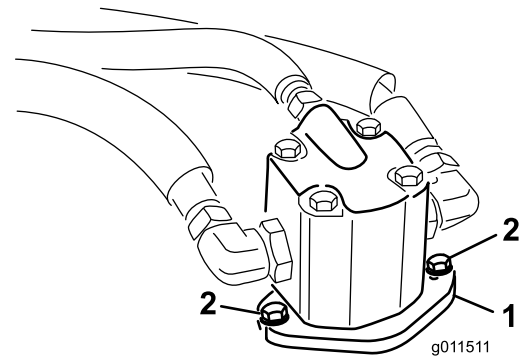

Figure 70
4. Remove the bolts securing the hydraulic motor to the mower deck (Figure 70).